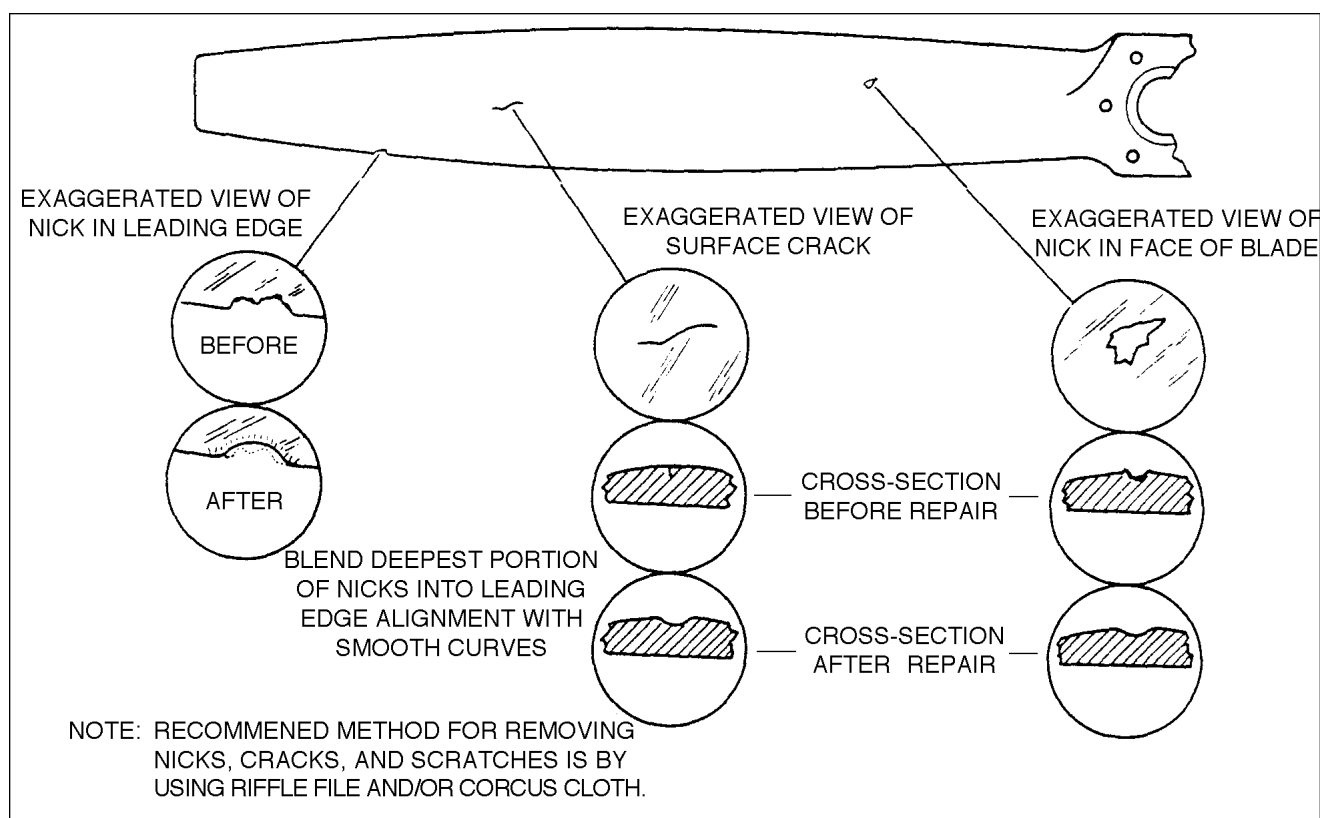

Figure 8-1. Typical Nicks and Removed Method
- Nicks in the leading edges of the blades should be filed out and all edges rounded, as cracks sometimes start from such places. Use fine emery cloth for finishing, (Refer to Figure 8-1 for propeller blade care.) A propeller with several nicks, scratches, corrosion or cracks should be returned to a propeller overhaul shop or the manufacturer for inspection and repair.